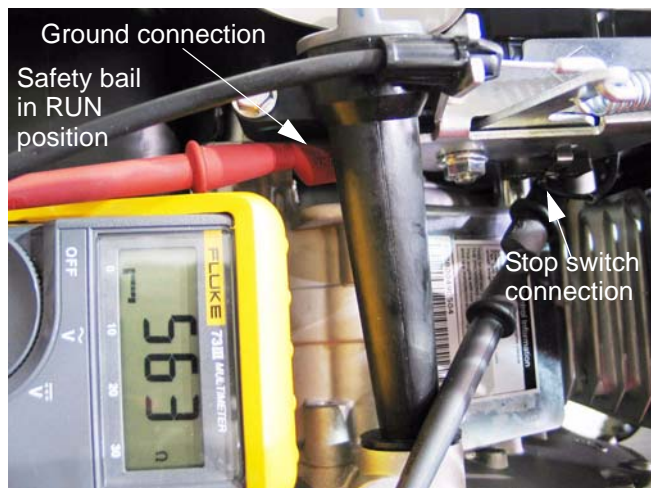

Figure 7.4
- 3c. The reading should be high when the bail is pulled down or the switch is in the run position, reflecting the resistance in the primary windings of the ignition module. See Figure 7.4.